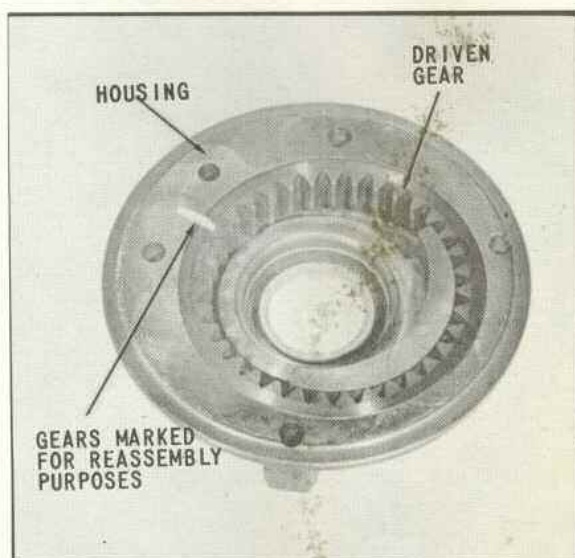

Fig. 65 Installing Pump Driven Gear
60. After seal is assembled, lubricate the pump housing with the proper transmission oil and place as shown in (Fig. 65). Install lubricated driven pump gear with identification mark as shown in (Fig. 65).